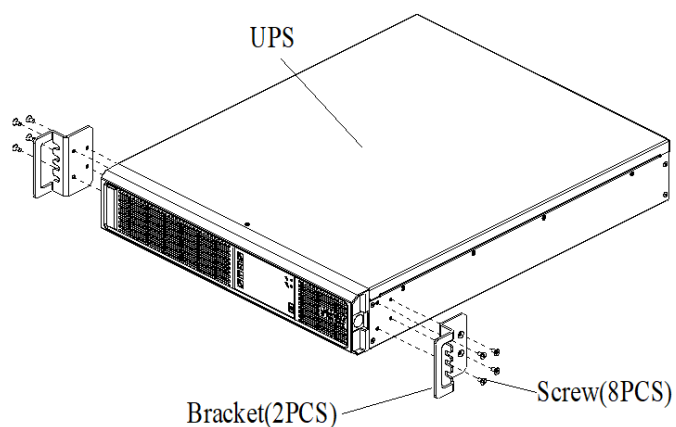

Figure 2-7 Installing brackets
1. Use eight M4 × 8 screws to fix the two brackets (accessories) respectively on both sides of the UPS front panel, as shown in Figure 2-7.